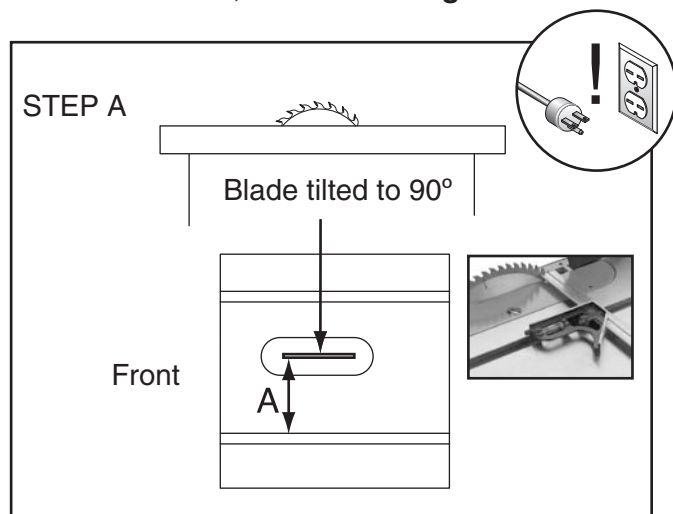

Figure 109. Measuring distance from miter slot to carbide tip of blade.
3. Measure from the miter slot to a carbide tip on the blade, as shown in **Figure 109**.